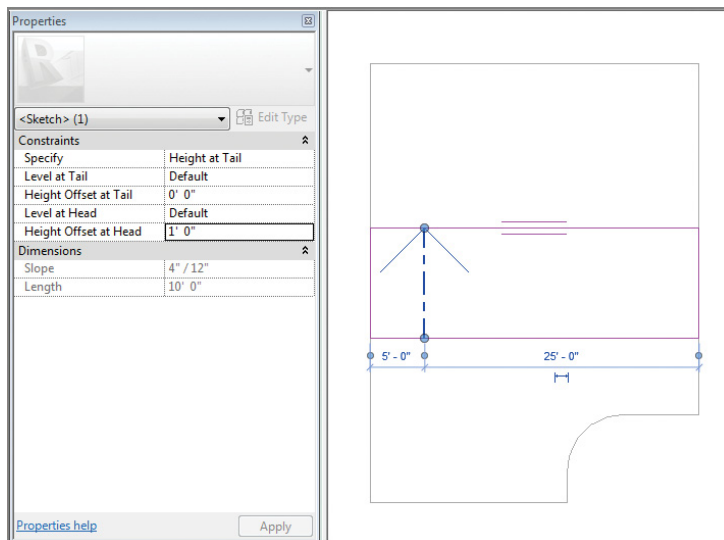

FIGURE 3.6 Slope arrow constraints
Sketch the arrow as shown in Figure 3.6. The first location that you pick is the tail of the arrow; the second location is the head.
3. Select the slope arrow, and modify the parameters as shown in Figure 3.6 so they match the location of the upper and lower floors. Be sure to specify the heights of the tail and head.